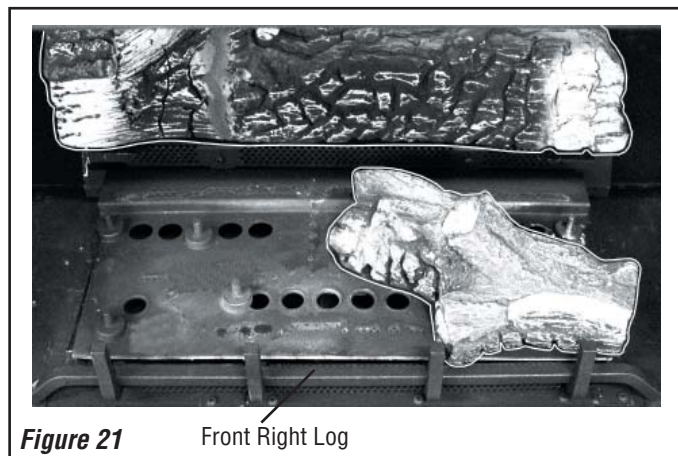

Figure 21 Front Right Log
2. Place the Front Right Log onto the 2 corresponding locating pins as shown in Figure 21.